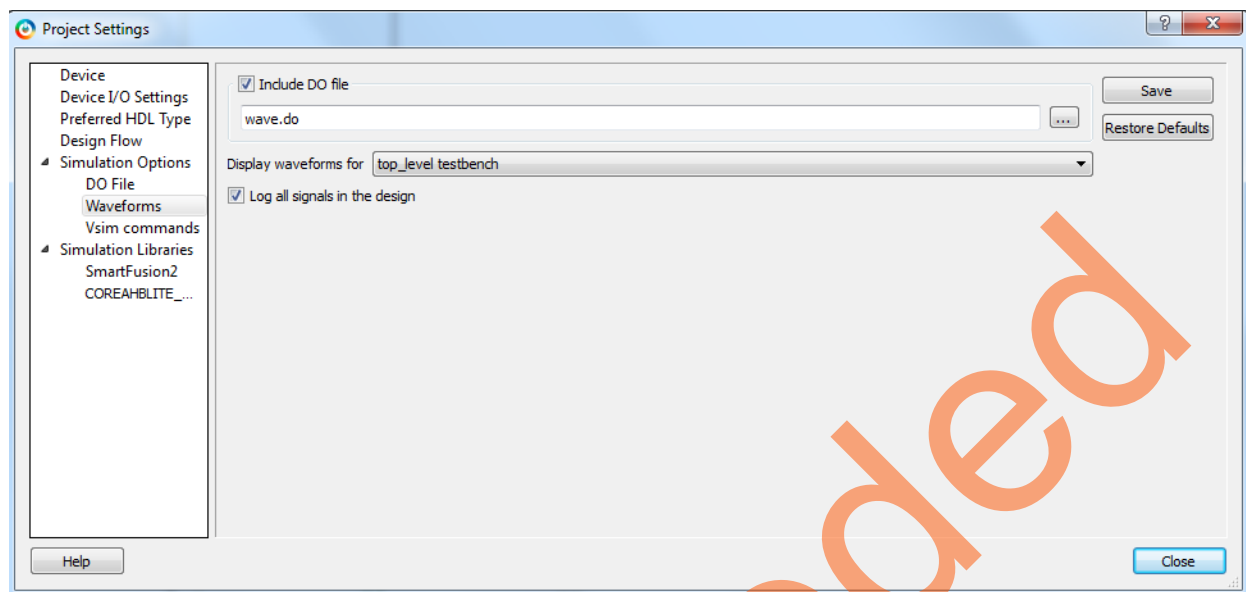

Figure 52 • Project Setting – Waveform
7. Select **Waveforms** under **Simulation Options** as shown in Figure 52: